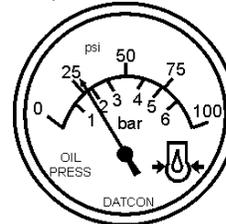

Figure 51. Oil Pressure Gauge
- The engine oil pressure gauge (Figure 51) will indicate the oil pressure of the engine. Under normal operating conditions the oil pressure is approximately 42 to 71 psi. (290~490 kPa).